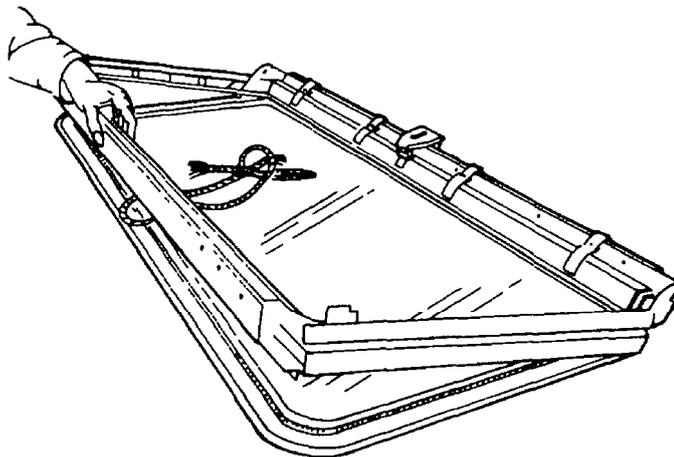

Figure 105 Windscreen Frame Installation
- i. Position the windscreen frame over the glass and rubber assembly, ensuring that the front face of the frame is facing downwards and the etched motif on the glass is towards the bottom of the frame (Figure 105).